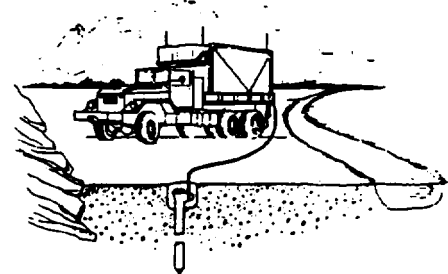

Figure G-10.
*c. Mountains.* It may be impossible to penetrate to moist soil or a water table in many mountainous areas. To properly ground your equipment, you must find a site where a ground rod can be installed. Stream beds are usually the best locations. (See figure G-10.) If you cannot drive a rod to its full length, install additional rods as described in paragraph G-8.